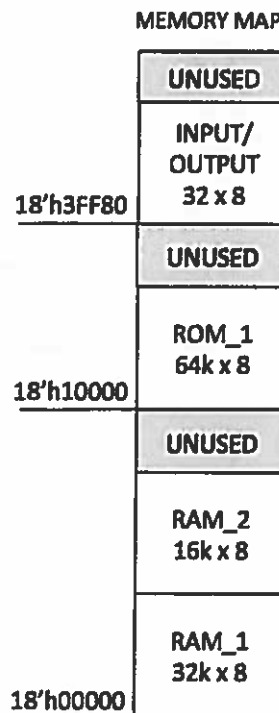

Figure 1.5
- (e) A microprocessor system with an 18-bit memory address bus has a memory map as shown in *Figure 1.5*. The system consists of two banks of RAMs, RAM_1 and RAM_2, one bank of ROM, and a 32-location space for input and output. The two banks of RAMs are respectively 32k and 16k in size, and occupy consecutive address spaces starting from address 0. The ROM is 64k in size and occupies the address space starting from 18'h10000. The input/output space starts from 18'h3FF80. Design in the form of Boolean equations the address decoder circuit which produces the RAM_1, RAM_2, ROM_1 and INPUT_OUTPUT enable signals.